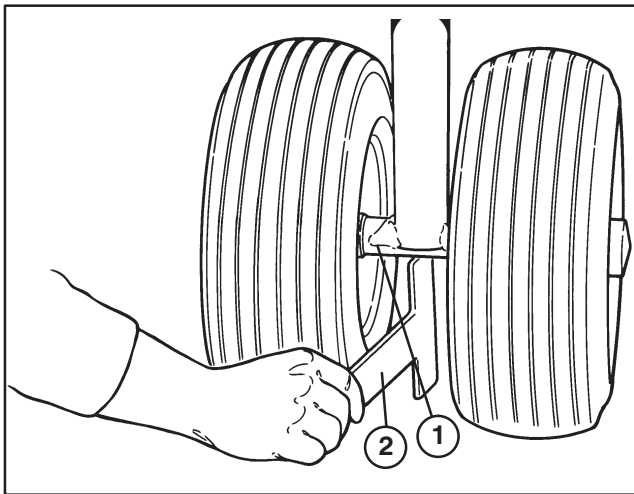

Figure 15
3. Slide short end of frame height gauge under front axle to verify height. Gauge should contact axle when on floor. Check both sides (Fig. 15).